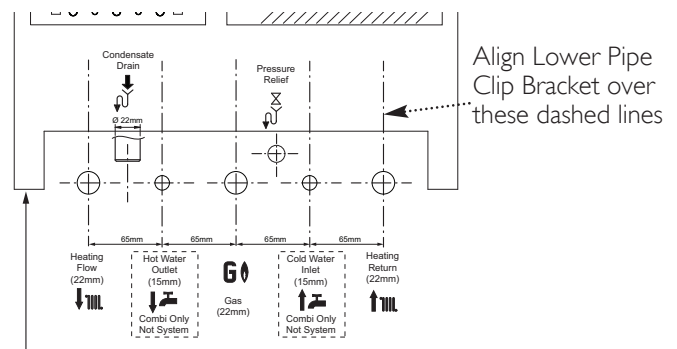

Fig. 3 Boiler Template
- Mark the Wall Plate fixing points using the boiler template (Fig. 3).